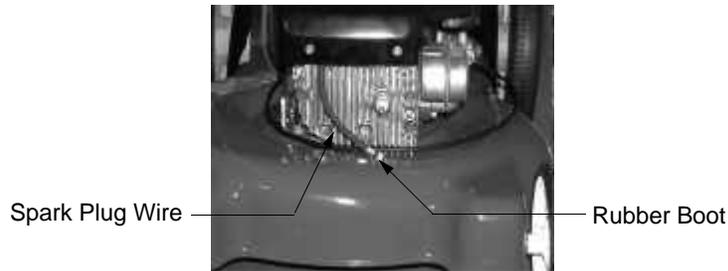

FIGURE 2
- Before setting up your lawn mower, disconnect the spark plug wire from the spark plug, and ground it against the engine. If the engine is equipped with the optional rubber boot, attach the boot to a bolt on the engine to ground. See Figure 2.